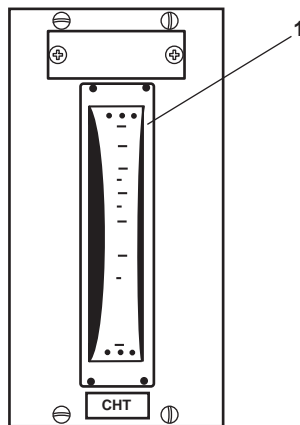

Figure 7. CHT Tank Level Indicator
11. Monitor the sewage level in the sewage holding tank by checking the tank level indicator (figure 7, item 1) in AMS 1 to prevent the sewage discharge pump from running dry.